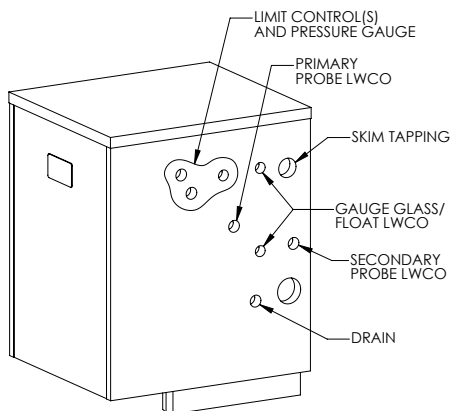

Figure 6.2: Steam Boiler Tapping Location
Install the 3/4" drain valve provided into the drain tapping on the right hand side of the boiler. Refer to Figure 6.2 for tapping location.
Install the optional probe type low water cut-off into the 3/4" tapping on the right side of the boiler. Refer to Figure 6.2 for tapping location.
- a. Install the operating limit control and pressure gauge in the 3/4" tapplings located on the right side of the boiler. Refer to Figure 6.2 for tapping location.